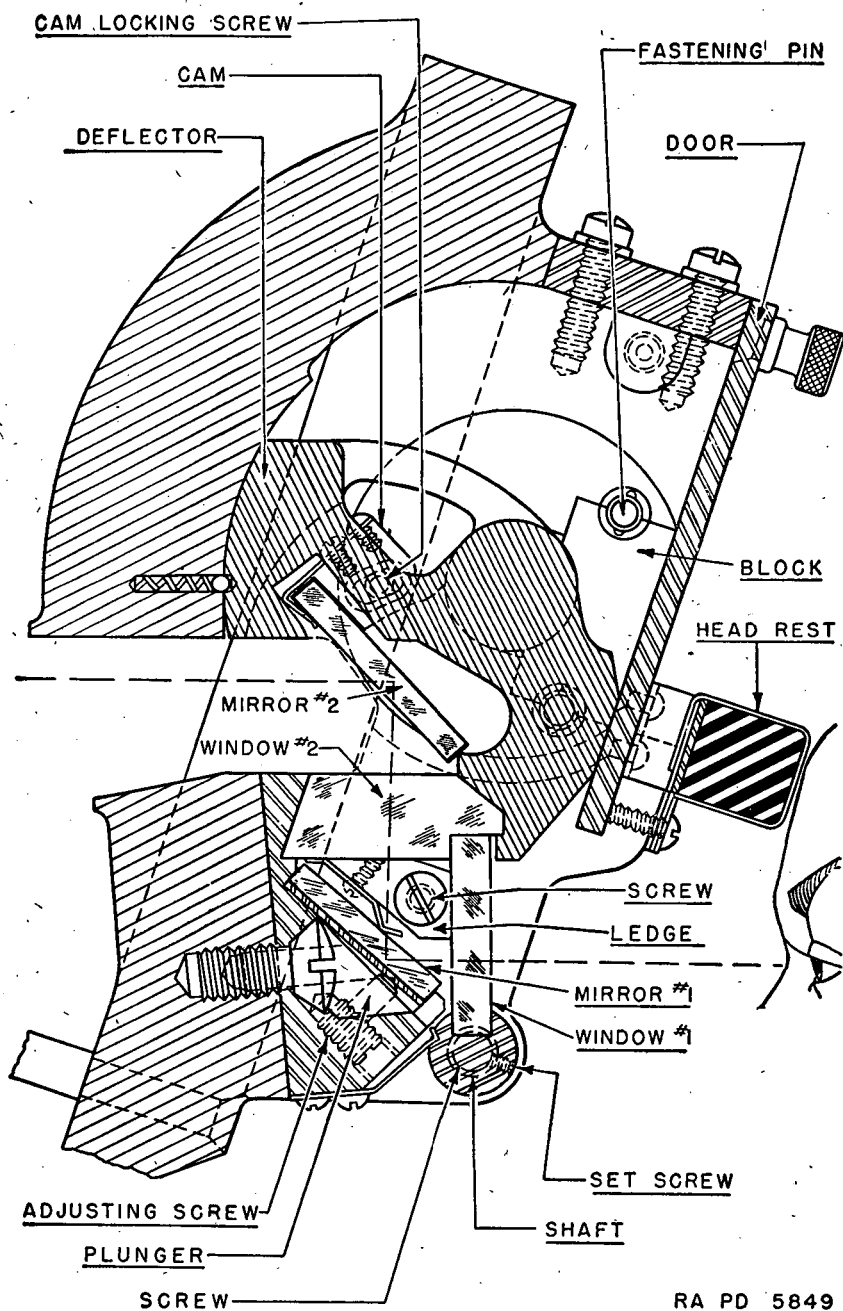

FIGURE 86.—Front door protectoscope.
(2) *Maintenance.*—Keep the windows and mirrors of the protectoscope clean and free of oil. Keep the deflector trunnions, blocks, and adjusting screws of the windows oiled to prevent corrosion. Adjust the upper and lower mirrors to obtain the best vision. The upper mirror (mirror "2") may be adjusted by loosening the locking screw on each cam (fig. 86) and setting the mirror at the desired angle. Tighten cam locking screws when the desired angle is obtained. See
replacement instructions for procedure on making these cam locking screws accessible. The lower mirror is adjusted by means of adjusting screws near the ends of the mirror and beneath it (fig. 86). Turning these screws clockwise rotates the mirror closer to the horizontal position, anticlockwise toward the vertical position. Since turning one screw only changes the angle and tilts the mirror, the adjusting screws will be turned together when changing the angle of the mirror.
2. Rotate bullet deflector forward, or anticlockwise as shown on figure 86.
3. Rotate window "1" backward, or clockwise as shown on figure 86.
7. Rotate deflector backward or anticlockwise on figure 86, until mirror "2" is alined with the slot milled in the housing. Mirror "2" in this position is parallel with the door.
9. Loosen ledge locking screws (fig. 86).